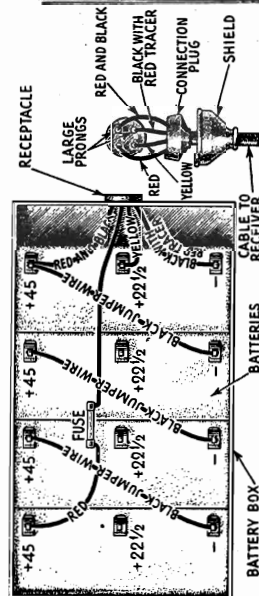
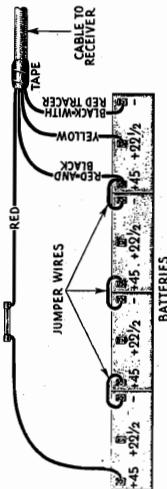

Figure 14—Battery Box Connections
Figure 15—Cable Connections to "B" Batteries
After fastening the top securely in place, place the "B" batteries in the box and connect them to the receptacle as shown in Figure 14. Slip the cambrie cover over the fuse and place the paper strips and plate over the terminals. Then lift the box into place, swing the hanger bolts into place and tighten both nuts securely. Care should be taken to draw up on all four nuts gradually.
**Main Cables to Batteries** Drill  $\frac{1}{2}$ " hole in the toe boards directly below the end of the receiver unit to which connections are made. (If any holes that may be used for this purpose are already available, drilling additional holes is unnecessary.) Pass the free end of the cable through the hole and thence to the "B" Battery location. Possibly other holes must also be drilled. Connect the "B" batteries to the cable as shown in Figure 15. The metal braid must be pushed back from the free end and taped so that sufficient length leads are obtained for connecting the batteries. If the battery box is used, solder the four prong plug onto the end of the cable as shown in Figure 14.